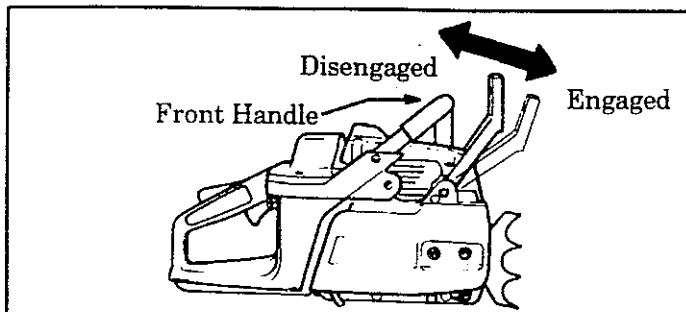

Figure 16
- The inertia activated chain brake is activated if the front hand guard is pushed forward, either manually or by centrifugal force. Figure 16.
- If the brake is already activated, it is disengaged by pulling the front hand guard back toward the front handle as far as possible. Figure 16.